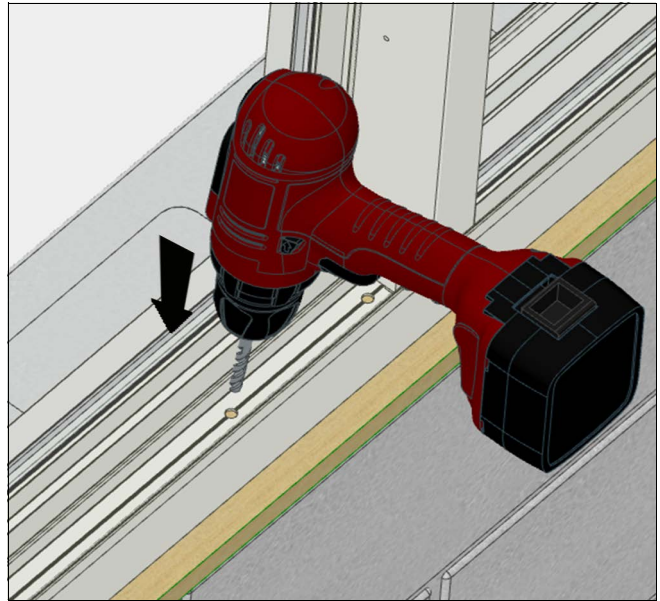

Figure 13
5. As needed, pre-drill the installation holes through the frame and into the installation opening (See Typical Anchors on page 9). See Figure 13.